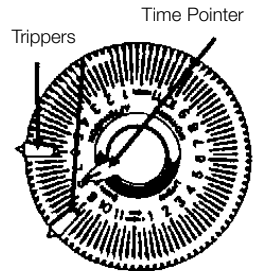

Figure 5
- Insert the ON (green) tripper into the slot of the Time Dial corresponding to the time you want the load to be turned ON (see figure 5).
- Insert the OFF (red) tripper into the slot of the Time Dial corresponding to the time you want the load to be turned OFF (see figure 5).